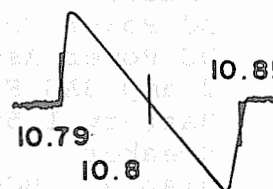

Figure 3
6. Adjust T5 so that 10.80MHz is in center of discriminator curve and for best linearity. See Figure 3.